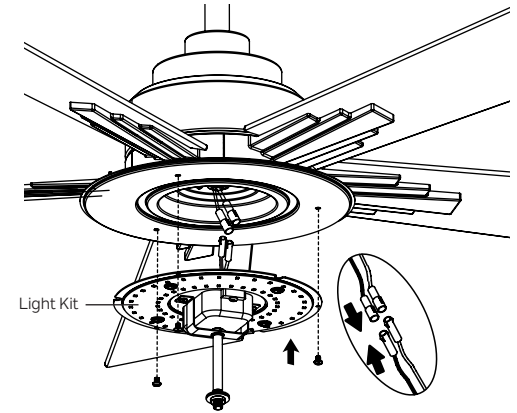

Fig. 22
Step 1. Hold the LED light kit to light plate, then connect the 2 single pin connectors from the light kit to the 2 single pin connectors from the motor assembly. Connect the black wire to the black wire, and white wire to the white wire. Attach the light kit to the light plate and securely tighten with three (3) screws from the screw pack (Fig. 22)